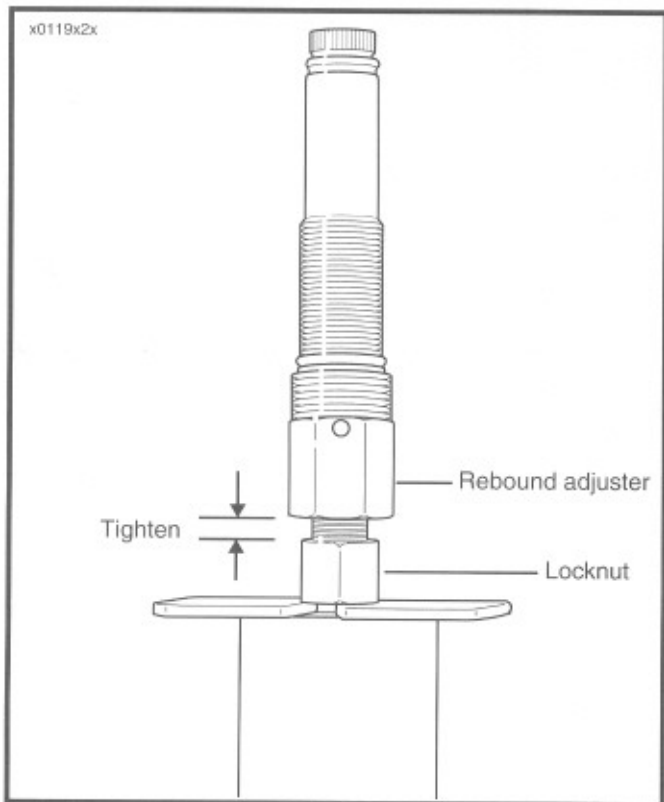

Figure 2-71
- d. See Figure 2-71. Thread locknut on damper rod up to contact base of rebound adjuster and tighten in place.